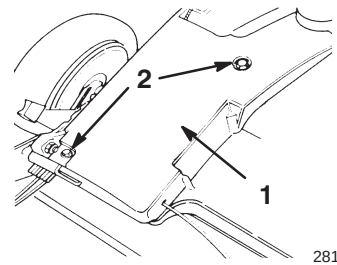

Figure 21
2. Remove the cover (Fig. 21).
2. Remove the bolts that secure the belt cover to the lawn mower housing (Fig. 21).